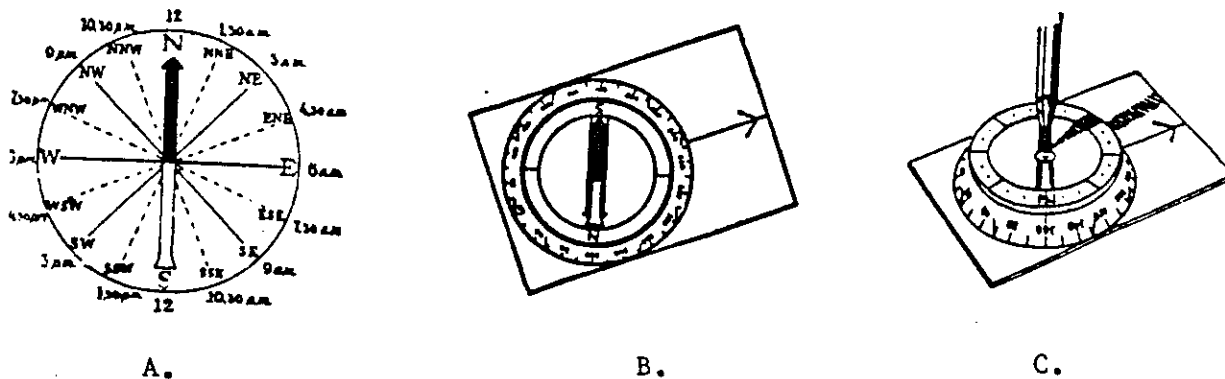

Figure 283 Using the Compass as a Watch
With a compass you can tell approximately what time it is. The sun moves 15 degrees in one hour (360 degrees in 24 hours). Figure 283-A will show you the bearing of the sun at any hour of the day. This is how you use your compass as a watch:
2. Turn the compass or compass housing until its "S" is exactly above the north end of the magnetic needle. See Figure 283-B.
3. Place a pencil, matchstick or other thin straight object upright over the middle of the compass housing as shown in Figure 283-C.
4. The shadow of the upright will indicate the bearing of the sun, and by referring to Figure 283-A you will know the approximate time.